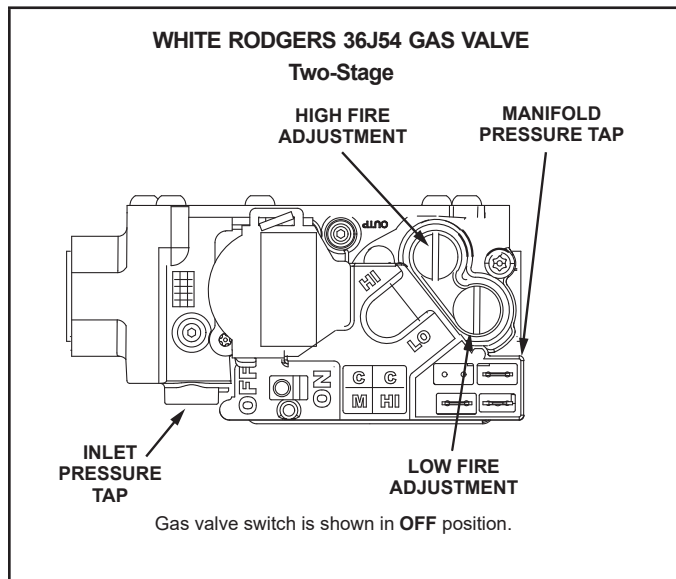
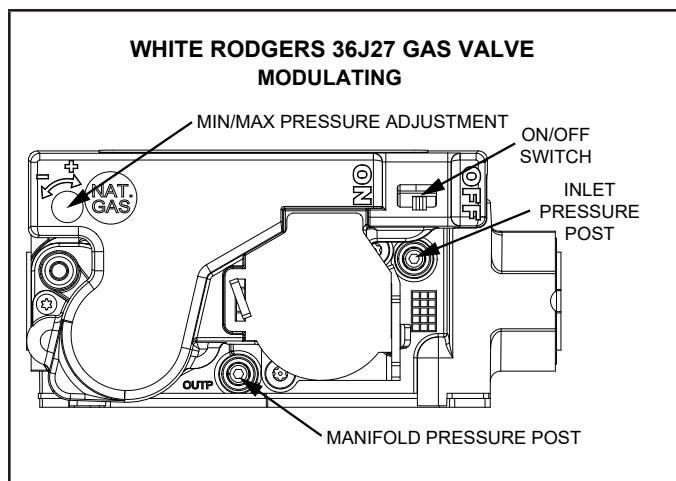

FIGURE 4
FIGURE 5
- 5 - Move gas valve switch to **OFF**. See FIGURE 4 and FIGURE 5.
- 6 - Wait five (5) minutes to clear out any gas. If you then smell gas, **STOP!** Immediately call your gas supplier from a neighbor's phone. Follow the gas supplier's instructions. If you do not smell gas, go to the next step.
- 7 - Move gas valve switch to **ON**. See FIGURE 4 and FIGURE 5.
For White Rodgers 36J54 valve (FIGURE 4), supply pressure is accessed by removing 1/8" hex screw. Remove the 1/8" hex screw and install a 1/8" fitting with hose barb. Connect tubing from the barbed fitting and route to measuring device to measure supply pressure.
For White Rodgers 36J27 valve (FIGURE 5), locate the 5/16" inlet pressure post on top of the valve. Using a 3/32" hex wrench, rotate pressure tap screw one rotation counter-clockwise. Connect a piece of 5/16" I.D. tubing over the post and route to measuring device. Open manual main supply valve.
For White Rodgers 36J54 valve (FIGURE 4), remove supply pressure barbed fitting and reinstall the 1/8" hex screw.
For White Rodgers 36J27 valve (FIGURE 5), remove tubing from the post. Then using 3/32" hex wrench, rotate the inlet pressure tap screw clockwise to seal the pressure port.
For White Rodgers 36J54 valve (FIGURE 4) manifold pressure, remove the 1/8" hex screw, install 1/8" fitting with hose barb, connect hose from barb to "+" side of measuring device.
For White Rodgers 36J27 valve (FIGURE 5) manifold pressure, locate the 5/16" manifold pressure post on top of the valve. Using a 3/32" hex wrench, rotate the outlet pressure tap screw one rotation counter-clockwise. Place 5/16" I.D. tubing over post and route to measuring device.
- 5 - If necessary, adjust manifold pressure. FIGURE 4 and FIGURE 5 show adjustment screw(s) locations.
For White Rodgers 36J54 valve (FIGURE 4), remove 1/8" fitting with hose barb and reinstall 1/8" hex screw.
For White Rodgers 36J27 valve (FIGURE 5), remove tubing from the post. Then using 3/32" hex wrench, rotate the manifold pressure tap screw clockwise to seal the pressure port.